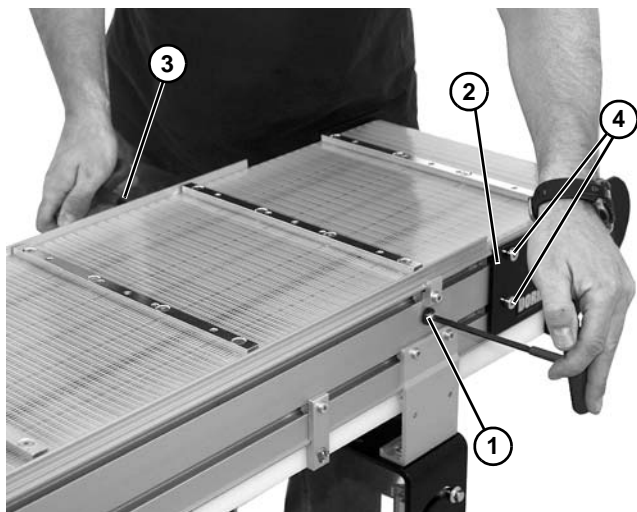

Figure 23
6. On tension end of the conveyor, identified by the pinion locking screw (**Figure 23, item 1**), push in head plate assembly (**Figure 23, item 2**): Loosen the pinion locking screw (**Figure 23, item 1**), adjust the pinion torque screw (**Figure 23, item 3**). On both sides of conveyor, loosen the two tail clamp bolts (**Figure 23, item 4**), and push head plate assembly (**Figure 23, item 2**) inward.